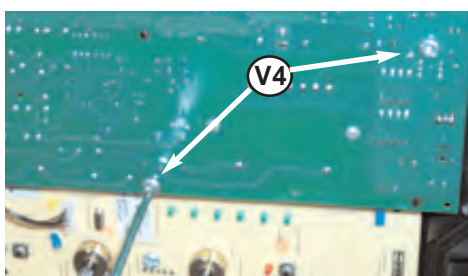

Fig. 98
7. Remove the two screws "V4" (see Fig. 98) on the PCB, unplug the electrical connections